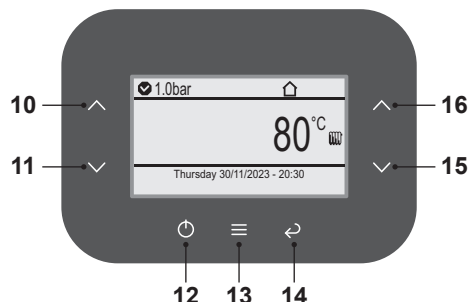

Fig. 8.34
- Press key 13 (Fig. 8.34) to go to the main menu (Fig. 8.35).
- Press key 10 or 11 (Fig. 8.34) to select the desired menu (Fig. 8.36).
- Press key 13 (Fig. 8.34) to access the selected menu (Fig. 8.37).
- Press key 10 or 11 (Fig. 8.34) to select the desired menu from those available (Fig. 8.39).
- Press key 13 (Fig. 8.34) again to highlight the value to be changed.
- Press key 10 or 11 (Fig. 8.34) to select the desired menu (Fig. 8.39).
- Use key 15 or 16 to modify the value of the selected parameter.
- Press key 13 (Fig. 8.34) to confirm the change or key 14 to exit without changing the value (return to previous level).